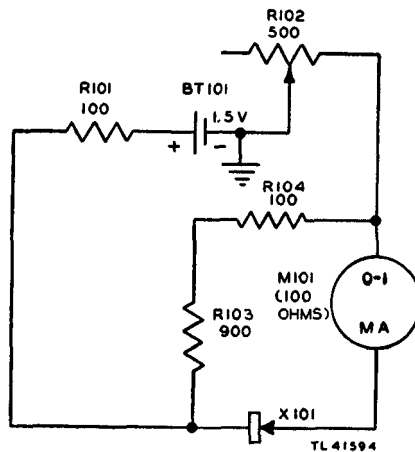

Figure 19. Circuit for back current measurements, schematic diagram.
*f. BACK CURRENT Position* (fig. 19). When the selector switch is rotated to this position (position 5), the circuit selected is the same as in *e* above except that the positions of the crystal rectifier and resistor R103 are reversed in the parallel circuit. The crystal rectifier now is connected in series with the meter and, with 1 volt impressed across this circuit, the meter pointer will indicate the current flowing through the crystal rectifier in the backward direction. The magnitude of this current, which is read on the MA scale of the meter, will be inversely proportional to the backward resistance of the crystal rectifier.